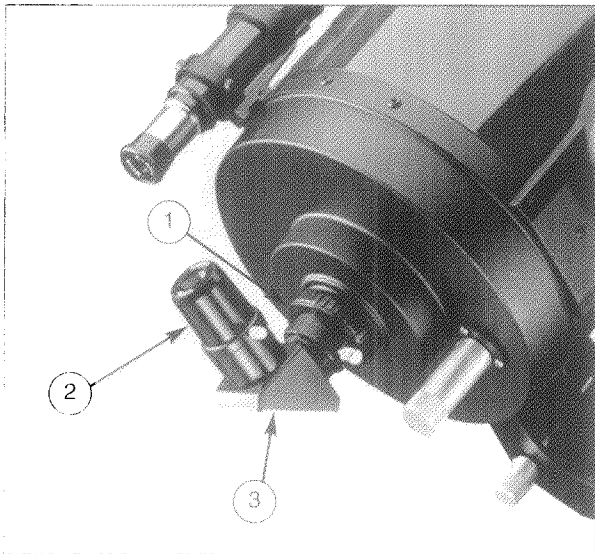

Fig. 6: (1) Eyepiece holder; (2) 25mm eyepiece; (3) Diagonal prism.
- b. Thread the eyepiece holder (1, Fig. 6) directly onto the rear-cell thread.
- c. Slide the diagonal prism (3, Fig. 6) into the eyepiece holder and lock in place by turning the thumbscrew to a "firm-feel."
- d. Slide the included 25mm eyepiece (2, Fig. 6) into the diagonal prism and lock in place by turning the thumbscrew.
NOTE: For astronomical observations the diagonal prism (3, Fig. 6) generally provides a comfortable right-angle viewing position. Alternately, an eyepiece may be inserted directly into the eyepiece holder for straight-through observations. With the diagonal prism in place images will be right-side-up but reversed left-for-right. With the eyepiece inserted directly into the (straight-through) eyepiece-holder, images will be upside-down and reversed left-for-right. For astronomical purposes the image orientation is of no importance whatever. For terrestrial observations, where a fully corrected image is highly desirable, the optional Meade #928 45° Erect-Image Diagonal Prism should be ordered separately.